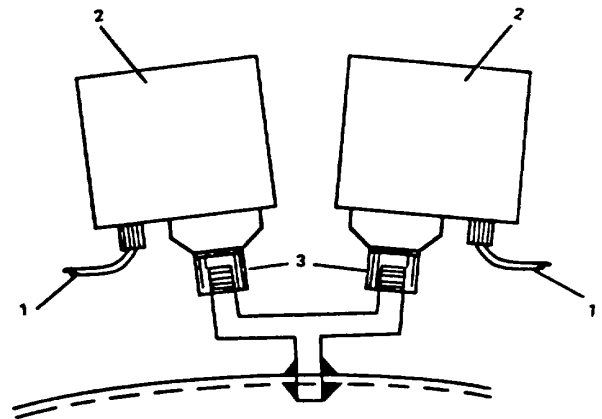

Figure 2-107. Replace Pressure Switch
- a. Tag and disconnect electrical wiring (1, Figure 2-107) from pressure switch (2).